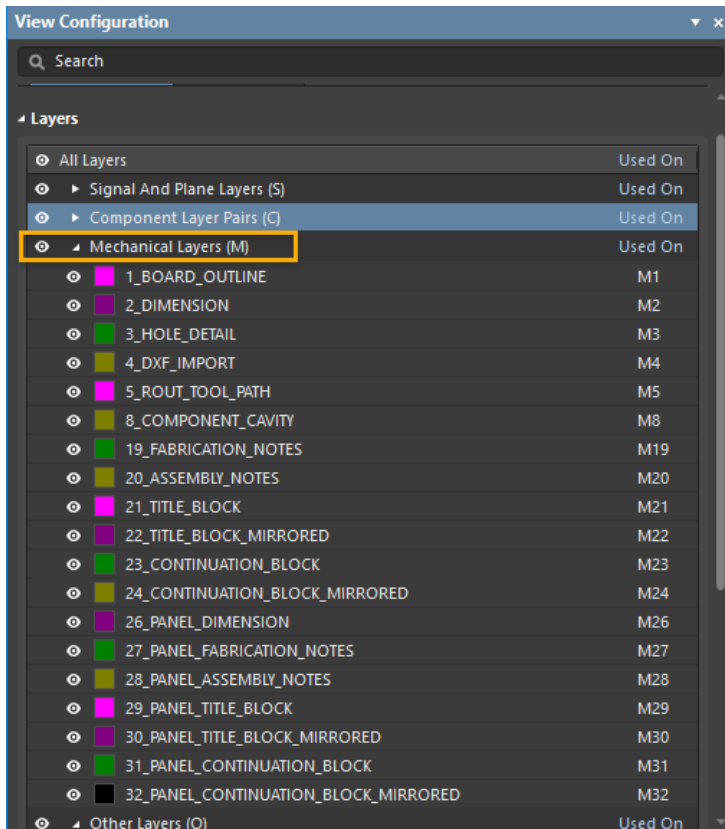

Figure 5. Mechanical layers
- 31. Scroll down to the Mechanical Layers (M) section, see Figure 5.